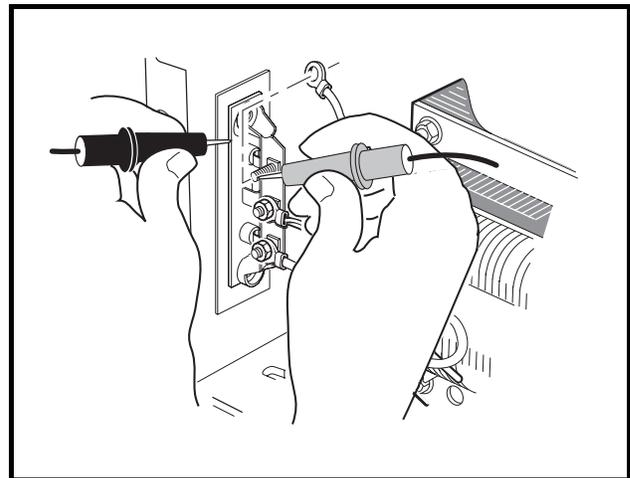

Figure 3-14 Diode Test – Probes Reversed
5. Reverse test probes and check each diode again and note the reading (**Figure 3-14, Page 3-17**). A diode is designed to conduct current in one direction only. If a diode conducts current (shows continuity) in both directions, the entire heatsink with diodes must be replaced. If a diode does not conduct current (does not show continuity) in either direction, the entire heatsink must be replaced.